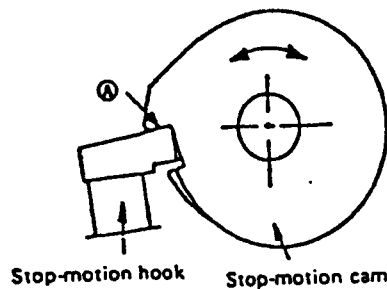

Fig. 24
- If screws ② are too low, the feed bracket will interfere with the lowering shaft. (Point A)
Adjust the position of the wiper by screw ①. To move the wiper, move starting lever ② up and down, and turn pulley ③ by hand. Be sure to bring the stop-motion cam into contact with A of the stop-motion hook as shown in Fig. 24 when making this adjustment.